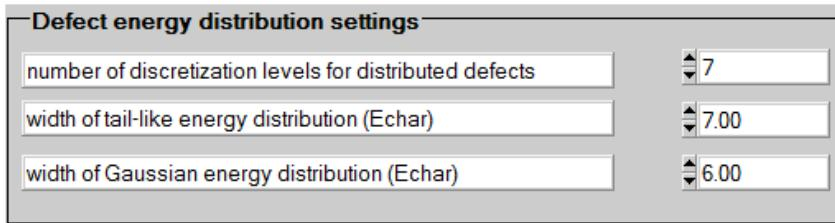

Figure 3.26 Defect settings on the numerical panel with their default values. Top: the number of discretization levels, bottom: w_t and w_G .
- (1) w_G can be defined in the numerical panel; default value: $w_G = 6.0$; see Figure 3.26; G stands for *Gauß*.
- (2) w_t can be defined on the numerical panel; default value: $w_t = 7.0$; see Figure 3.26; t stands for *tail*.